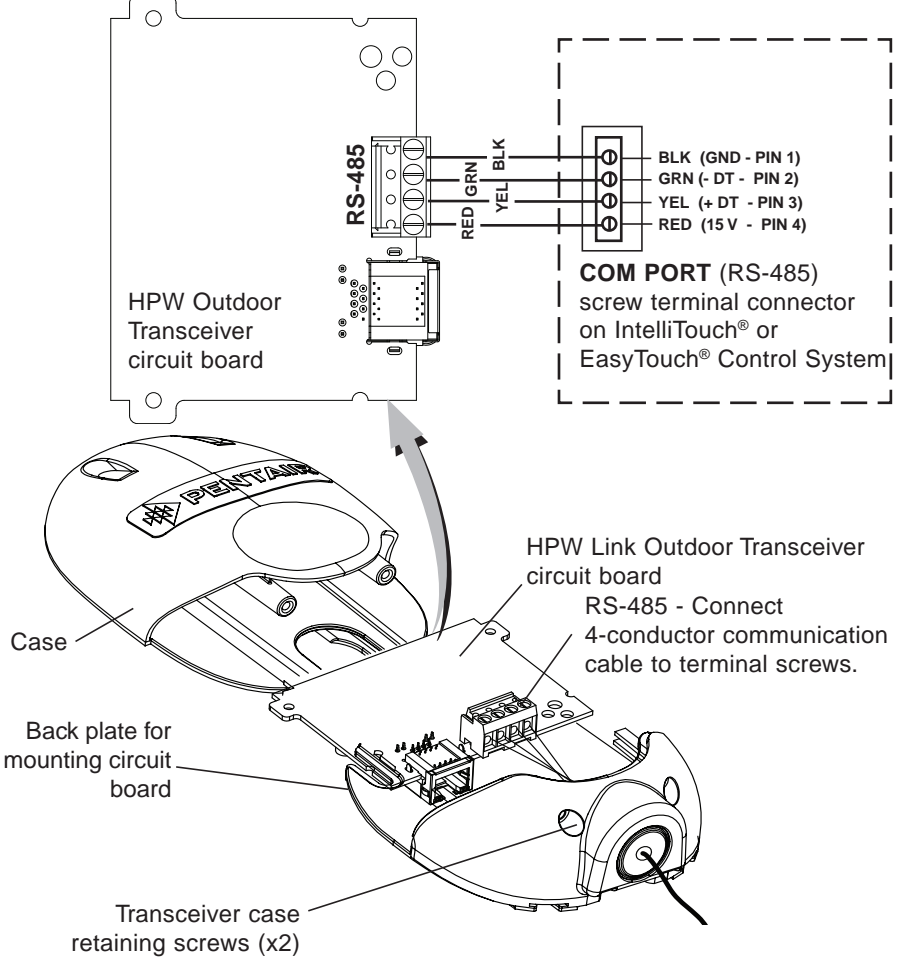

Figure 4. HPW Link Outdoor Transceiver
2. Connect the four conductor connection cable to the screw terminal on the HPW Outdoor Transceiver circuit board as shown below in Figure 4.